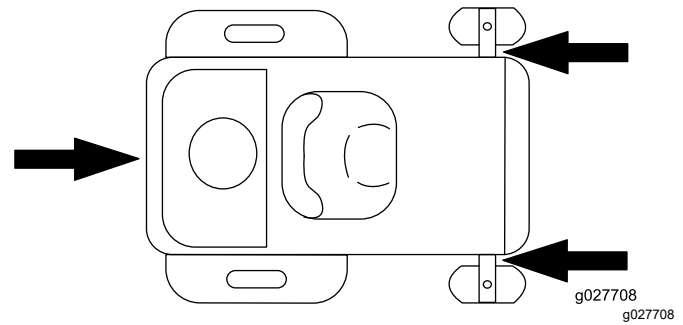

Figure 28
- Securely fasten the machine to the trailer or truck with straps, chains, cable, or ropes. Only use the four designated tie-down locations on the mower—two on the left side and two on the right (Figure 28). Use these locations even when transporting the mower with an attached accessory. Using non-designated locations may cause damage to the mower and/or attachment.